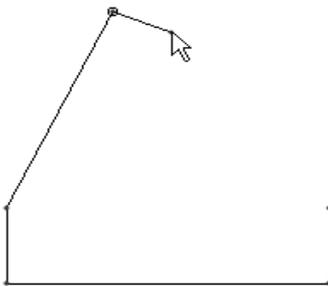

Figure 2-22 Partial sketch with left inclined line
- c. Draw lines by using the **Line Chain** tool, refer to Figures 2-22 and 2-23.
8. Move the cursor to size the line and specify the endpoint of the left inclined line, as shown in Figure 2-22.